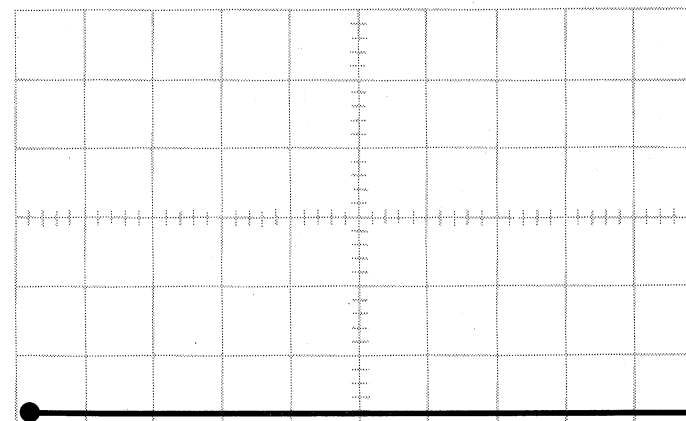

Figure 1-11
- () Adjust circuit board control R84 until the base line just becomes straight and flat. See Figure 1-11. NOTE: If you turn the control any farther than this, the base line may be distorted when you make very sensitive tests on PNP transistors and P channel FET's.